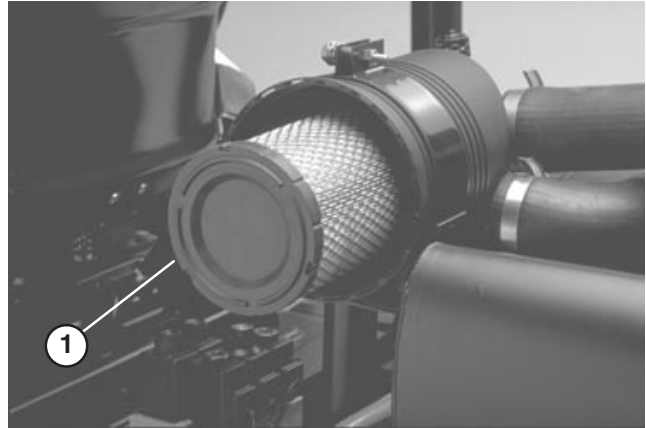

Figure 39
2. Gently slide primary filter (Fig. 39) out of air cleaner body to reduce the amount of dust dislodged. Avoid knocking filter against air cleaner body. **Do not remove safety filter.**